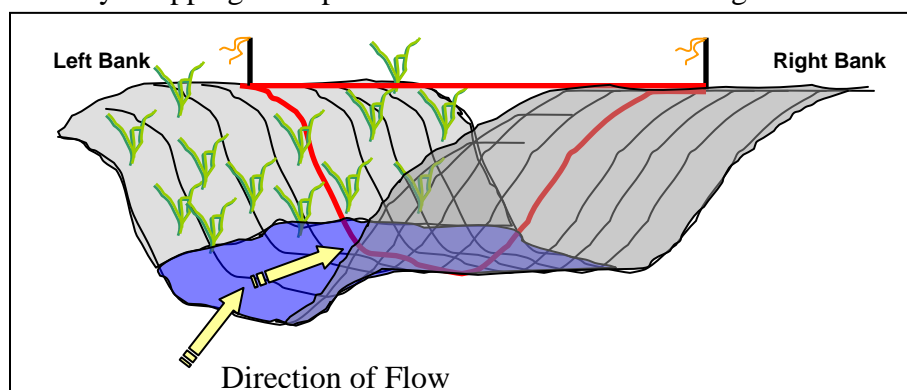

Figure 5 – The left and right banks are determined by facing downstream
- Remove PVC pipes to reveal rebar benchmarks, then attach the measuring tape's metal hook to the rebar benchmark on the left bank (determine left bank by looking downstream) (Figure 5), stretch the tape tight across to the rebar benchmark on the right bank, and fasten by wrapping the tape around the rebar then knotting.